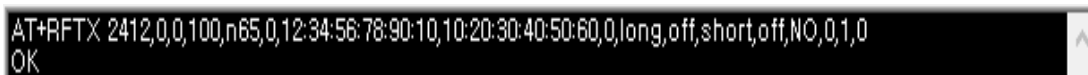

Figure 11: Debug Console – Start TX
- When the **Start TX** button is clicked, messages as shown in Figure 11 will be shown